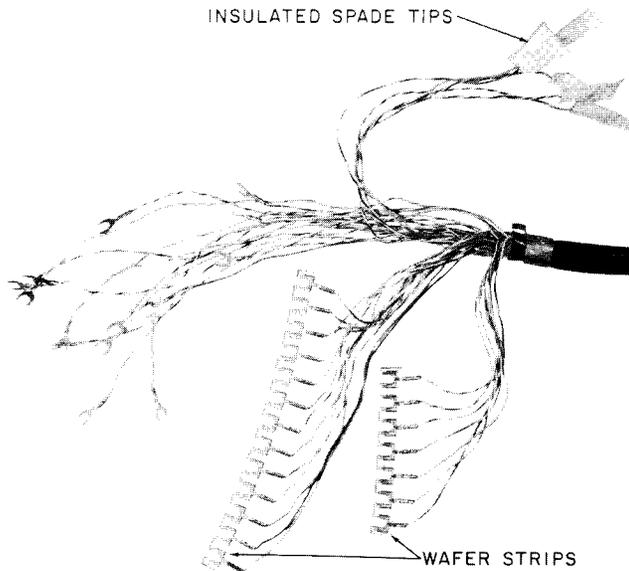

Fig. 2—Slotted Wafer Strip End of Mounting Cord, Later Type
2.09 Mounting cords of later manufacture feature a slotted wafer strip (Fig. 2) to facilitate replacement.